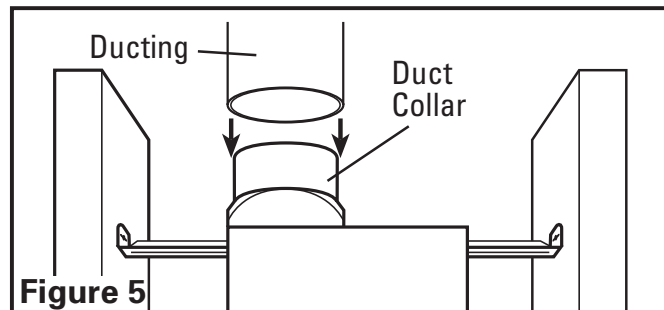

Figure 5
1. Connect the ducting to the fan's duct collar (**Figure 5**). Secure in place using tape or screw clamp. Always duct the fan to the outside through a wall or roof cap.